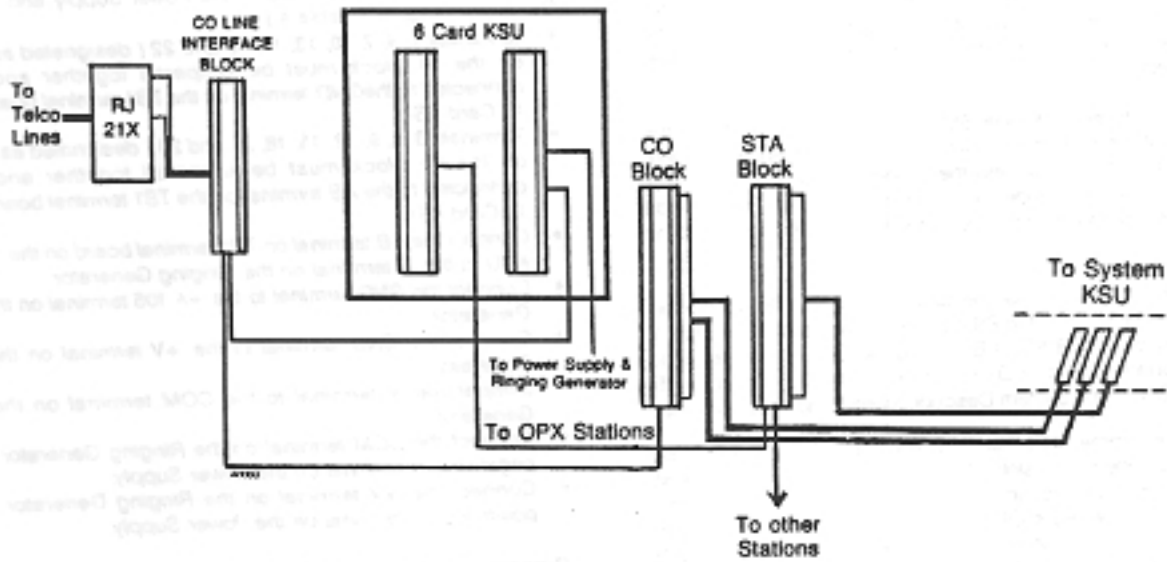

Figure 5a OPX INSTALLATION WITH 6 CARD KSU
4.01 The following paragraphs provide instructions for connecting the OPX to the system equipment. It is recommended that the 6 Card and 13 Card KSU be mounted on a separate mounting board to the left of the system equipment and near a separate 115WAC, 15 amp outlet (Figures 5a and b). The maximum line loss for the OPX is 1300 ohms.